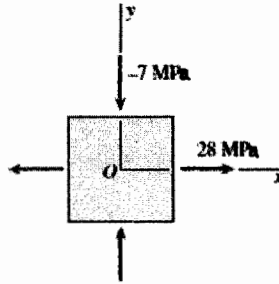

Fig. 3 An element in biaxial stress is subjected to stresses
4. An element in *biaxial stress* is subjected to stresses $\sigma_x = 28 \text{ MPa}$ and $\sigma_y = -7 \text{ MPa}$, as shown in the figure (Fig. 3). Using Mohr's circle, determine: